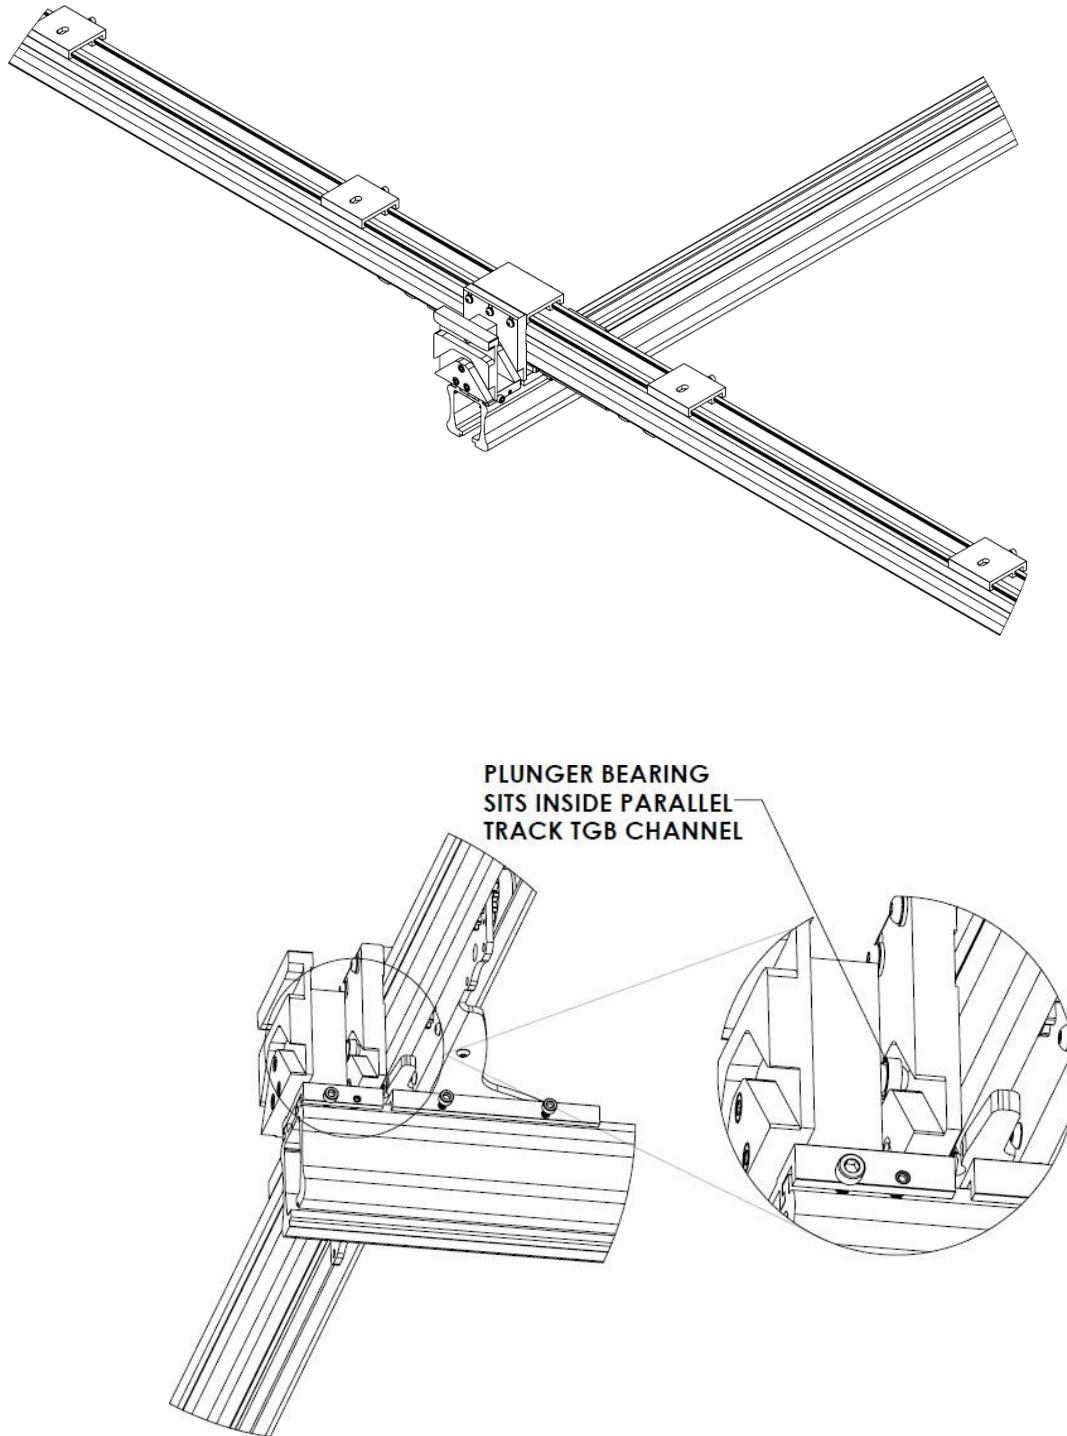

Figure 96: **TGB Parallel Track Channel Aligns with the Plunger Bearing**
- Position the traversing track TGB (already mounted to the traversing track) so that the channel on the parallel track TGB aligns with the plunger bearing (Figure 96).